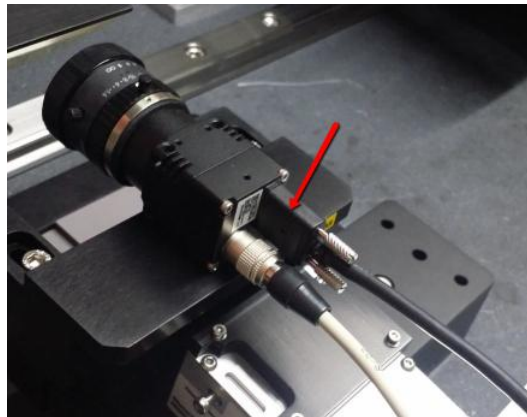

Figure 8 PSP 2 Camera Cable
8. Using 1 x 2530-0110 (Camera Cable_Area Scan_5Meter) and connect to PSP 2 Camera as below Figure 8.